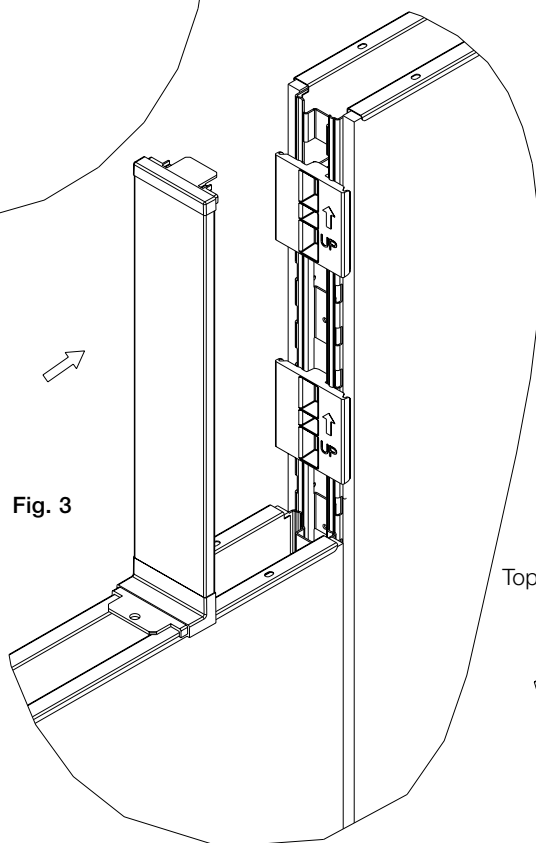

Fig. 3
4. Snap on Top Cap (**Fig. 3**)
3. Snap High-Low Panel End Trim onto end of upper panel (Fig. 3)